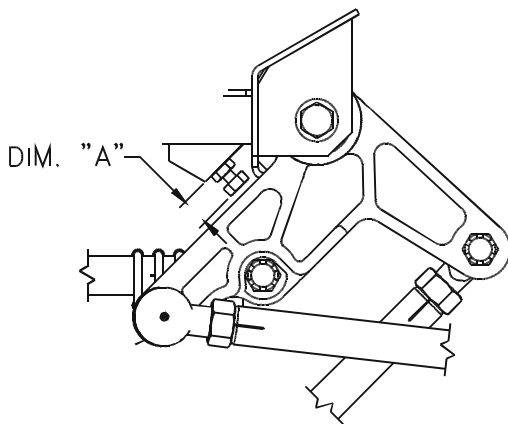

Figure 22 - Steering Arm Stop Bolt
1. Turn the steering wheel until the steering arm contacts the stop bolt or the steering wheel stops turning (See Figure 22). Measure the turn angle of the wheel on the same side as the turn (i.e. inside wheel).